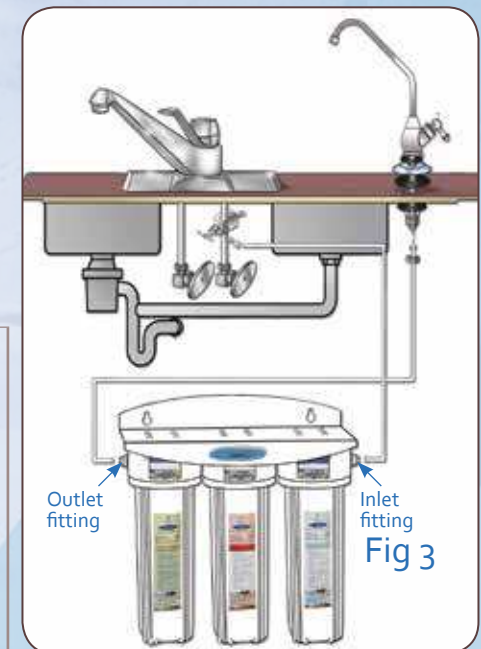

Fig 3
Connecting Tubing into Filter (Figs 3, 4, and 5)
- Push in tube from saddle valve through water filter INLET fitting (Fig 3). Remove blue locking clip, if any.
- Push in tube from faucet through water filter OUTLET fitting (Fig 3). Reattach blue locking clip, if any.